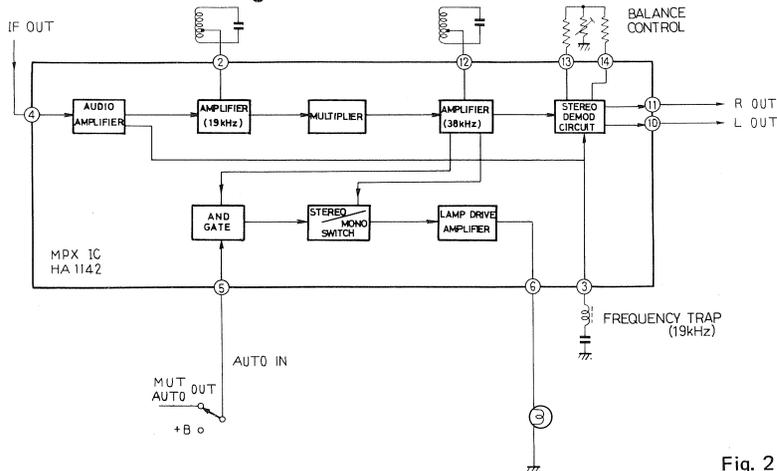

Fig. 2
The unit employs integrated circuits (IC). The configuration is shown in Fig. 2.